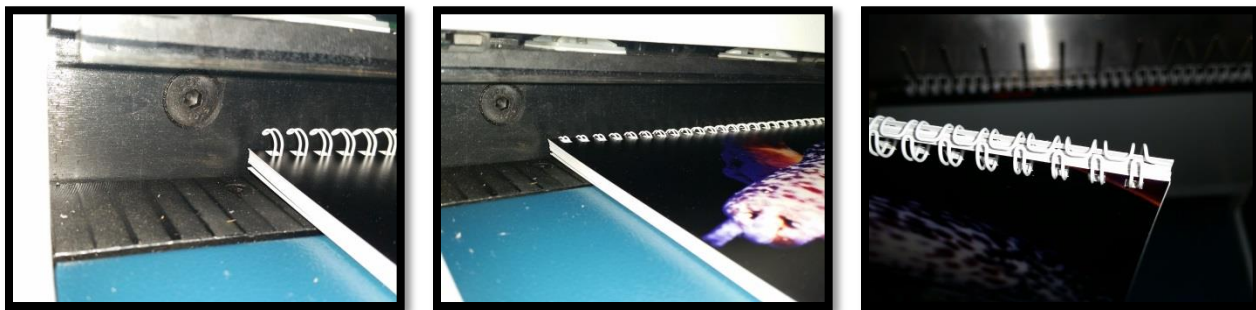

Figure 11
- c. **Book Placement Prior to Closing:** After the book is removed from the wire-o hanger and then placed into the closing mechanism. Make sure the book is all the way against the backstop before pressing the foot pedal. The book will move toward you as it closes which is normal. Figure 11